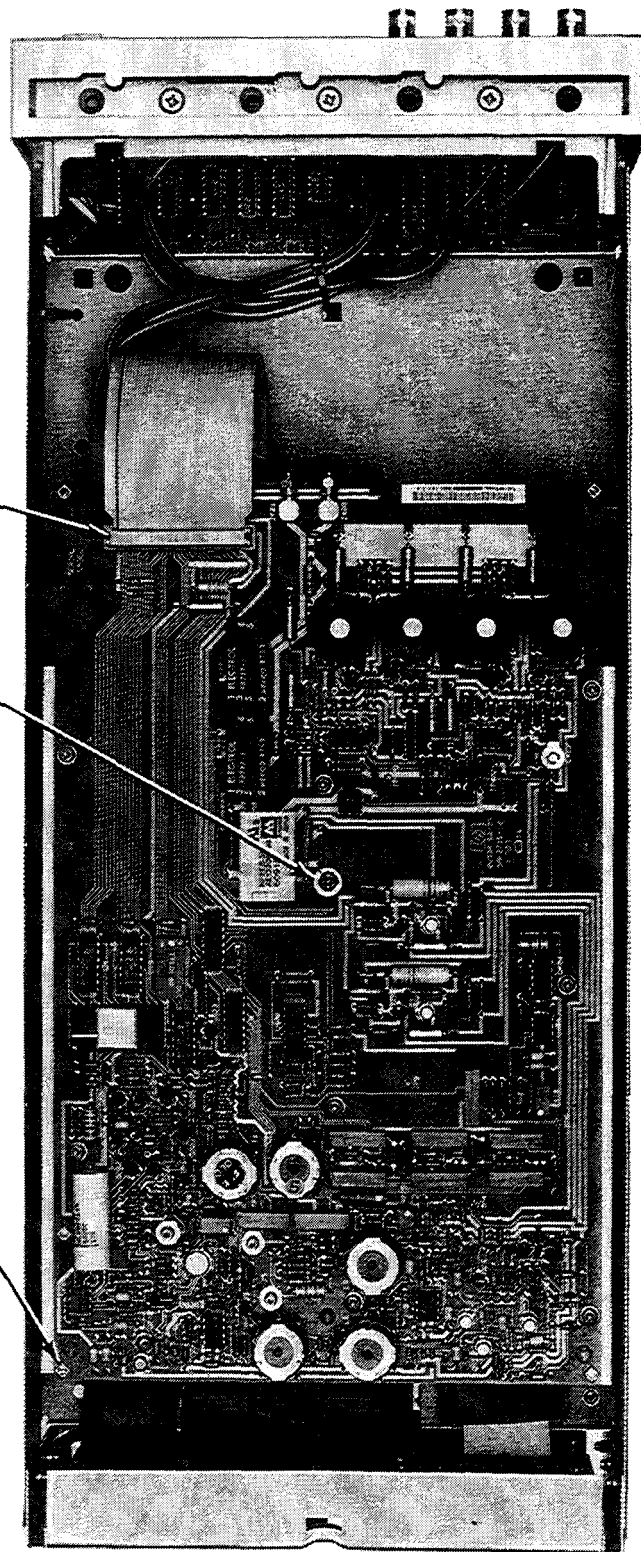

Figure 8-11. How to Access A3 in Instruments Equipped with Option 002
- a. If the instrument has Option 002 (a second output assembly, A10) and Output 1 (the output from the A3 Output Assembly) is to be checked, move the A10 Output Assembly out of the way. (Refer to Figure 8-11, *How to Access A3 in Instruments Equipped with Option 002*.)